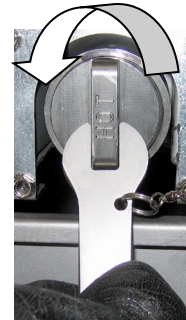

Figure 2
1. **Wearing protective gloves** use the supplied wrench to re-cap from the pre-filter (**Figure 2**).